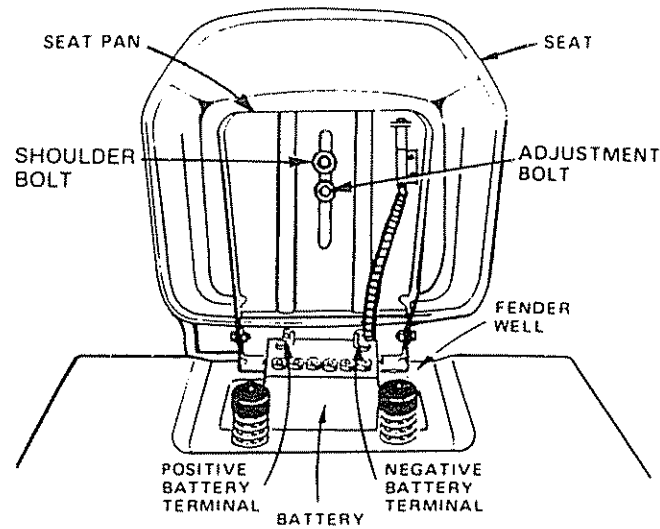
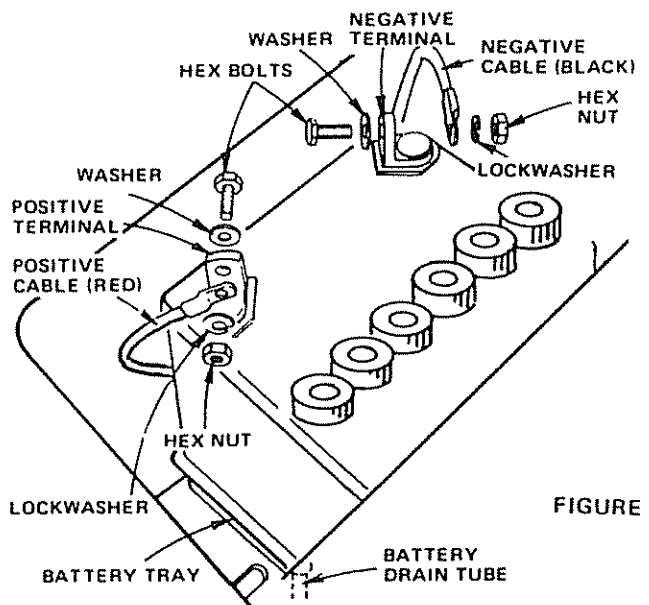

FIGURE 3
FIGURE 4
Seat position should be adjusted forward or backward so that the operator can comfortably reach Clutch/Brake Pedal and safely operate tractor. (Fig. 3)
- Place Seat on Seat Pan. Screw Hex Head Machine Screw, Lockwasher and Flat Washer Assembly into Seat (Fig. 3). Screw Shoulder Bolt and Flat Washer Assembly into Seat (Fig. 3). Machine Screw, Shoulder Bolt and Washers found in Bag of Parts. (shown full size on pg 6).
- a. Lift seat (Fig. 3).
- b. Lower battery into fender well with battery terminals toward front of tractor (Fig. 3). Make sure battery rests in battery tray. (Fig. 4)
- c. Connect **RED** battery cable to positive (+) battery terminal with hex bolt, flat washer, lockwasher and hex nut (shown full size on pg. 6) found in bag of parts. Tighten securely with two 7/16" wrenches. (Fig. 4)
- d. Connect **BLACK** ground cable to negative (-) battery terminal with remaining hex bolt, flat washer, lockwasher and hex nut (shown full size on pg. 6) found in bag of parts. Tighten securely. (Fig. 4)